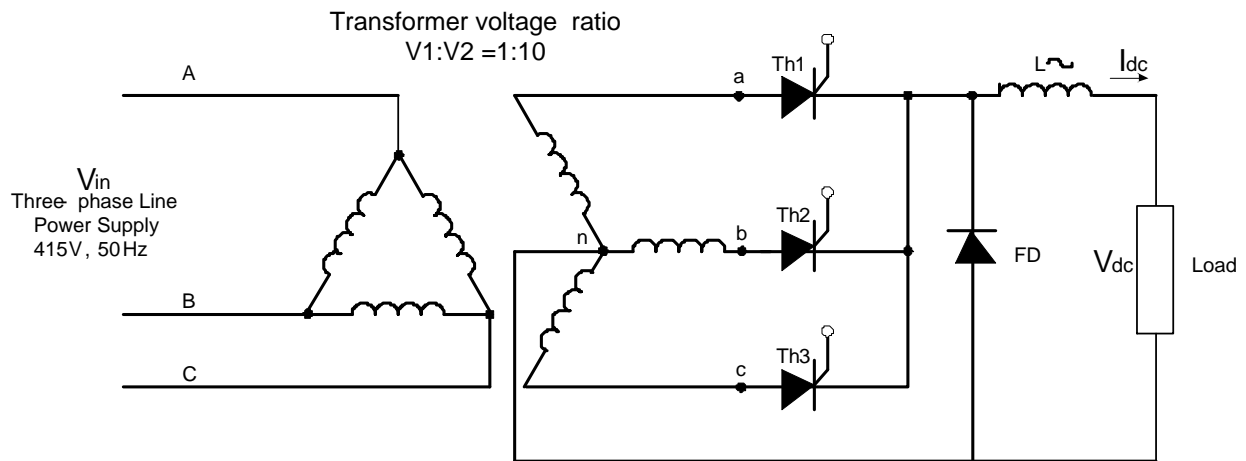

Figure Q2
2. A controlled three-phase half wave rectifier connected with a delta-wye transformer such as shown in Figure Q2. The three-phase line voltage source is 415 V, 50 Hz. The transformer Voltage ratio is 1 to 10. Assumed that the rectifier is ideal with chuck inductor L is infinity (current is continuous). If the required output voltage V_{dc} is 1000 V and resistance of load is 10 Ohm.